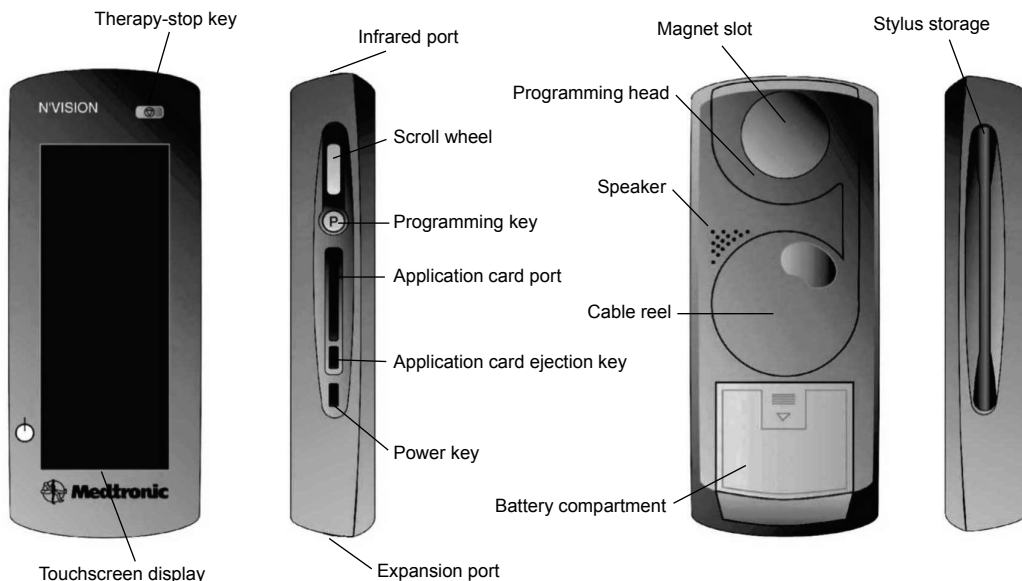

Figure 1. N'Vision clinician programmer components.
The Model 8840 N'Vision Clinician Programmer (Figure 1) with the Model 8870 Application Card is a hand-held device for programming Medtronic devices for Medtronic Neuromodulation therapies. The programmer is used to review and program device parameters using telemetry, a radio-frequency (RF) communication.